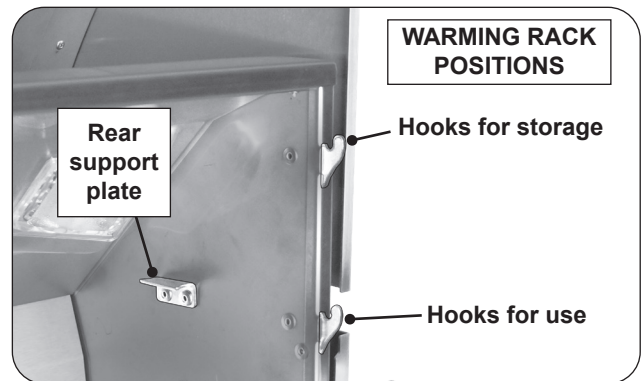

Fig. 27-2 Warming rack hooks
1. Locate the warming rack hooks and rear supports found on the upper portion of the grill oven (see Fig. 27-2).